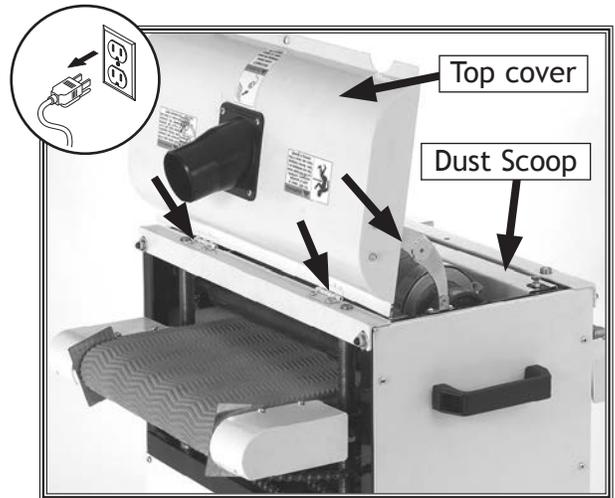

Figure 44. Top cover mounting hardware.
2. Remove the top cover by loosening the hex bolts and removing the Phillips head screws (see **Figure 44**) securing the top cover support.